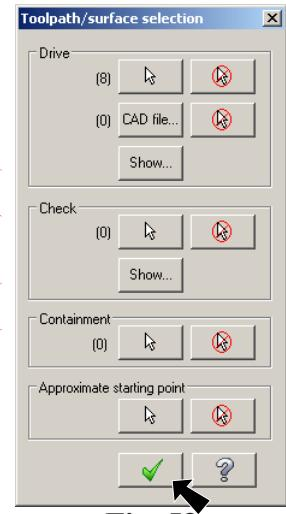

Fig. 53
- Step 5. Click OK  in the Toolpath/surface selection dialog box, Fig. 53.